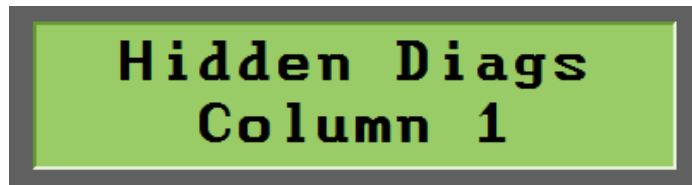

Figure 5-4. First Level of Hidden Diagnostics Menu
4. Press “Enter” to access the first level of the hidden Diagnostics menu. The text in Figure 5-4 will be displayed.